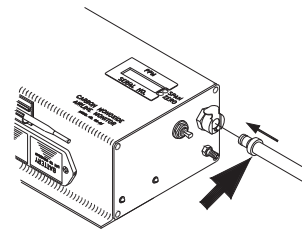

Figure 6
6. Attach the clear tubing with male plug to the monitor air sample inlet (Figure 6).